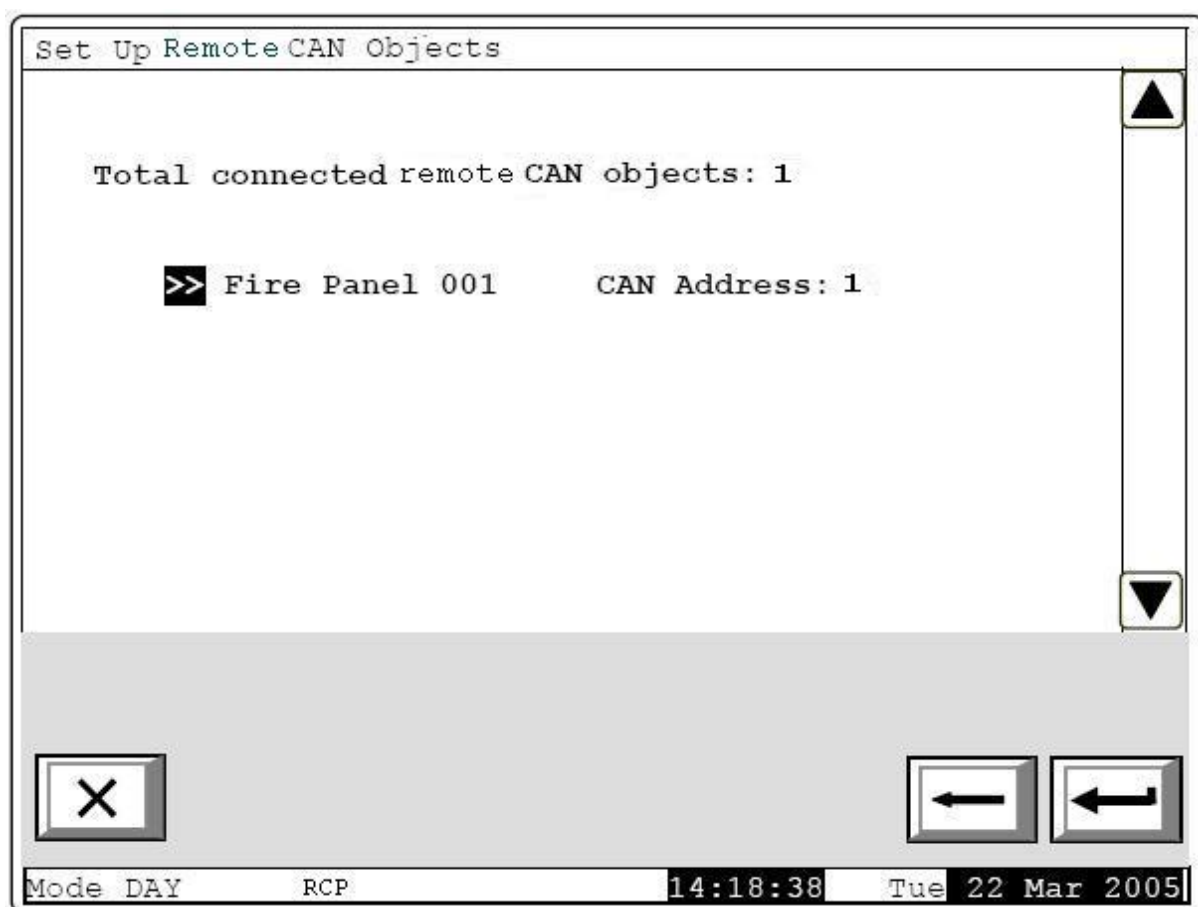

fig. 10
2.4. Edit/Review the Remote CAN objects - we can edit/review the remote objects from menu "setup -> panel parameters -> Local Network -> View/Edit CAN objects" (fig. 10).